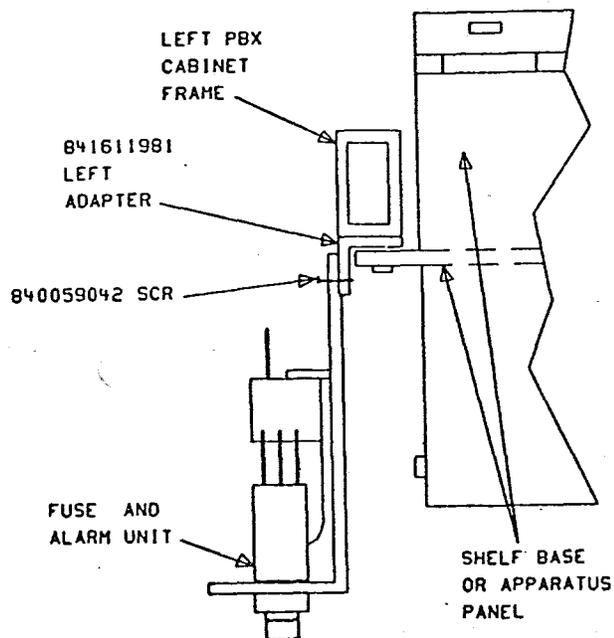

FIGURE 1
- 2.12 Attach left adapter bracket 841611981 to shelf base P30H561 using two .216-20X3/8 screws. Fuse and Alarm Unit may already be mounted to the adapter plate. See Figure 1.